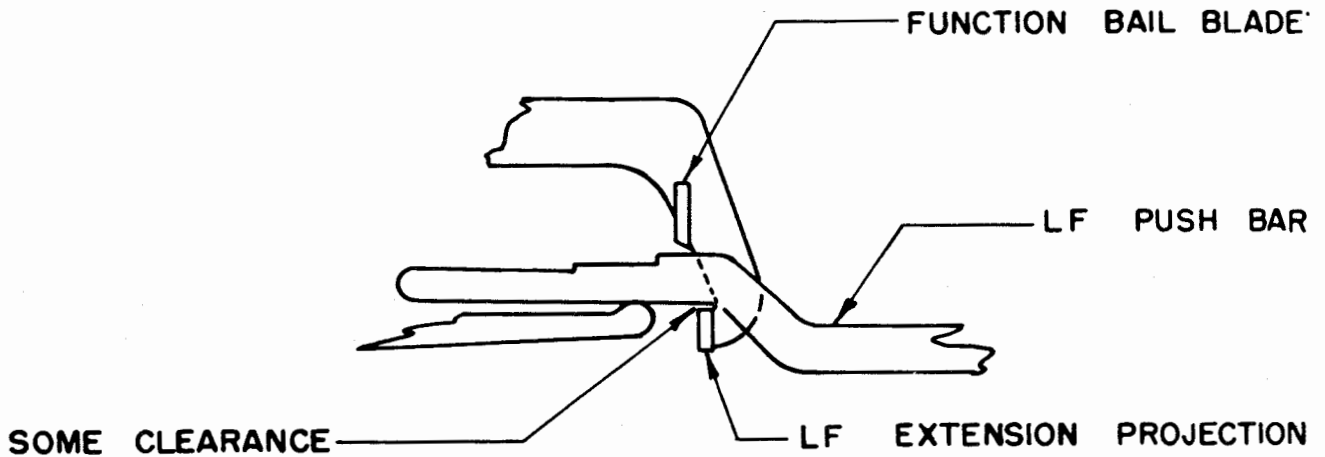

Figure 21
**To Check the function bail blade adjustment,** select the combination for the letter O when the printing bail is in its rearmost position. Then rotate the main shaft until the printing bail is in its extreme forward position. There should be some clearance between the upper edge of the line-feed extension projection of the bail and the lower edge of the line-feed pushbar. See Figure 21.